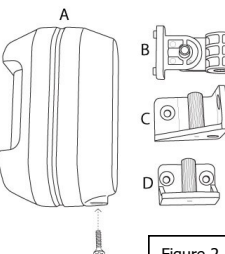

Figure 2
1. Remove the screw from the bottom of the case and open the PIR (see *Figure 2*).
### With Bracket (see *Figure 2*)